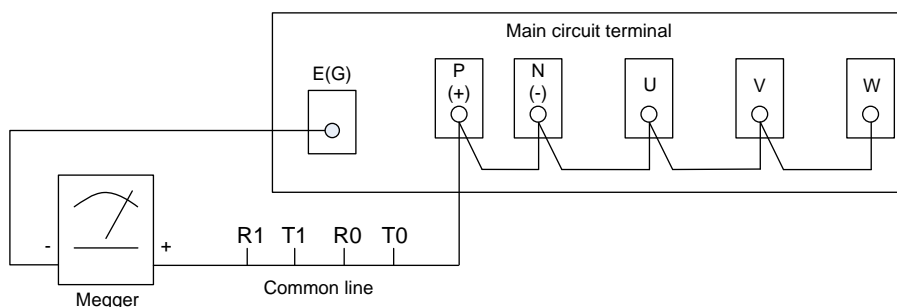

Figure 7.6-1 Main Circuit Terminal Connection for Megger Test
- 3) Connect the main circuit terminals with a common line as shown in Figure 7.6-1.